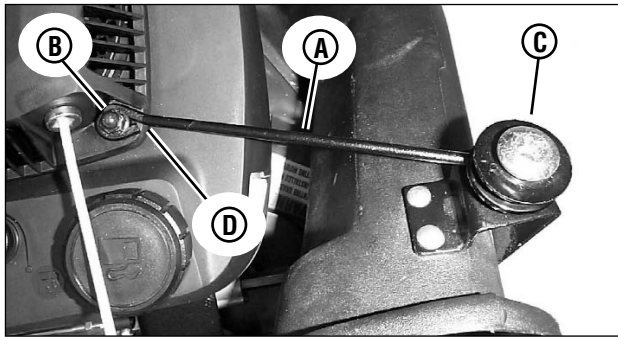

Figure 13: Installing the adapter standoff
5. (Kawasaki engines only) Attach the grass bag adapter standoff (**A, Figure 13**) between the rope guide pulley and the engine recoil: